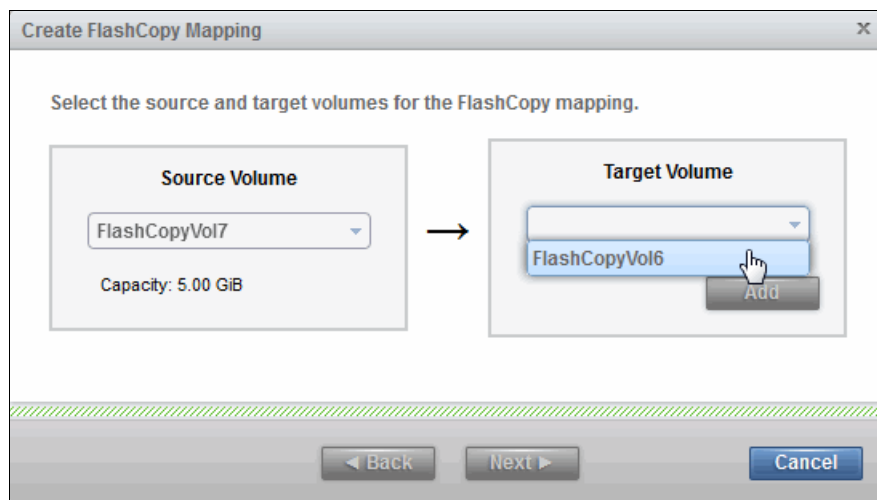

Figure 10-45 Select target volume
3. The Source Volume is preselected with the target volume that was selected in the previous step. Select the Target Volume from the drop-down menu (you select the source volume that you want to restore). In this example, select FlashCopyVol16, as shown in Figure 10-45. Because FlashCopyVol16 is the source volume for FlashCopyVol17, you are effectively reversing the copy direction by doing this.